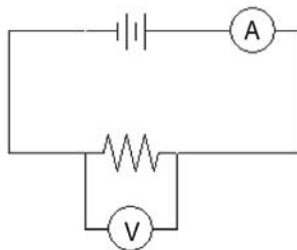

Figure 3.12: Schematic for Step 2
2. **Construct the circuit shown in Fig. 3.12.** Refer to the Suggestions section above. Choose a voltage setting on the power supply, and read off the voltage and current from the meters. Then use Ohm’s Law (Eq. 3.1) to experimentally⁵ determine the resistance. Record your measurements in Data Table 1 in your Excel spreadsheet. Refer to Eq. A.2 (included at the end of this write-up) to calculate the uncertainty in your experimentally determined resistance. Compare your measured value (Ohm’s Law value) with the nominal value given by the color code (see Question 1).